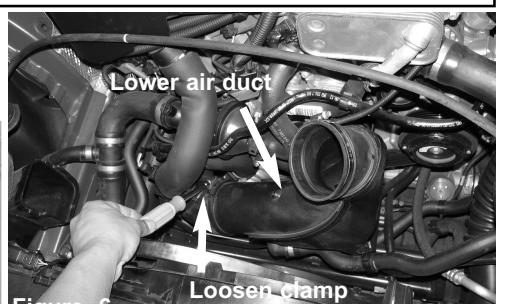

Figure 6
**Figure A:** Place the 3.25" straight hose and two #48 clamps onto the end of the intake pipe and only secure the lower clamp for now. **Figure B:** Place the Injen intake pipe into the lower turbo inlet duct from figure 6 and leave the clamp loose for now. This pipe will need to be adjusted later.